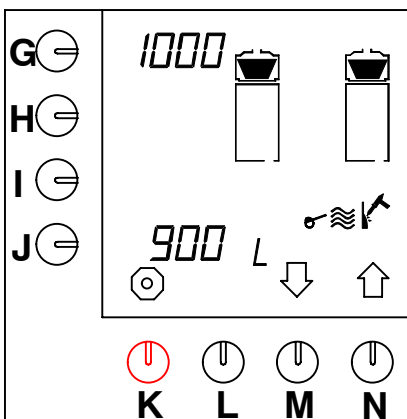

Fig. 26 Descaling counter coffee-making system
- The descaling counter appears on the display (fig. 26).